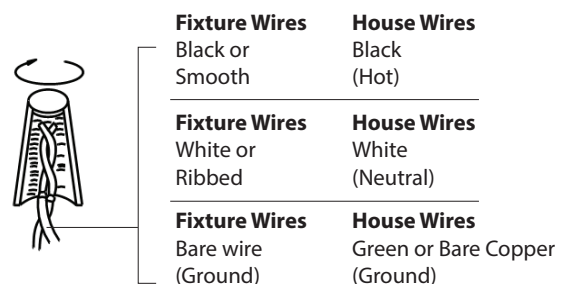

Fig.3 Sealing
COMPLETING INSTALLATION (FIG.3)
9. To prevent moisture from entering the outlet box and causing a short, use clear caulking (i.e. indoor/outdoor silicone sealant) to outline the outside of fixture back plate where it meets the wall. Leave a space at the bottom to allow moisture to escape (Fig.3).